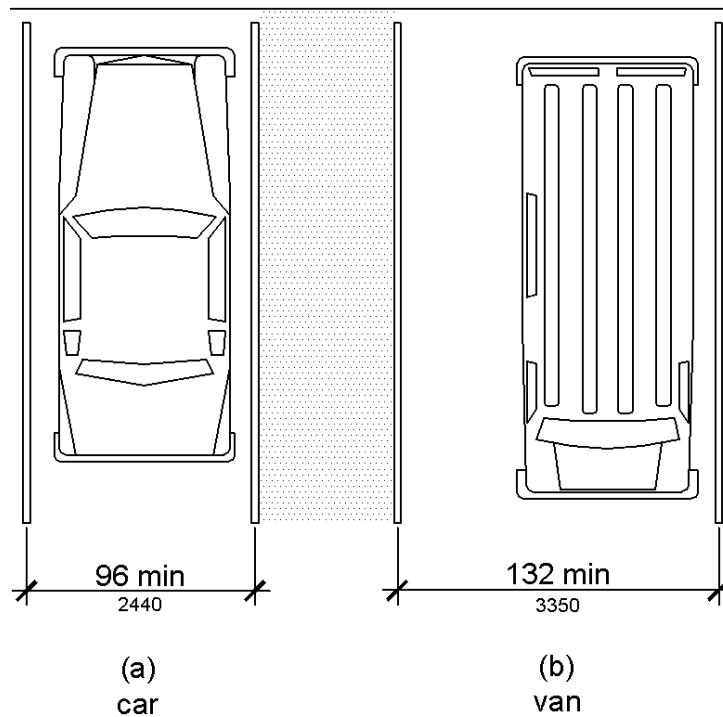

**Figure 404.2.4.1**
**404.2.4** Provide minimum maneuvering clearances at doors and gates in accordance with Figure 404.2.4.1.